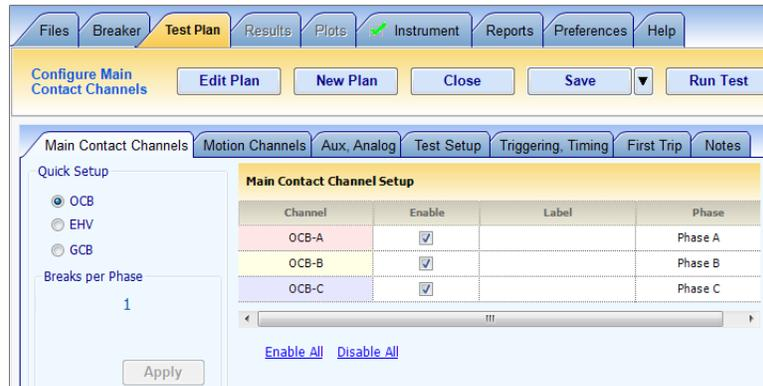

Figure 16 OCB Parameters on the Main Contact Channels Tab
- Main Contact Channels tab of the Test Plan page (Figure 16). See page 56 for configuration.